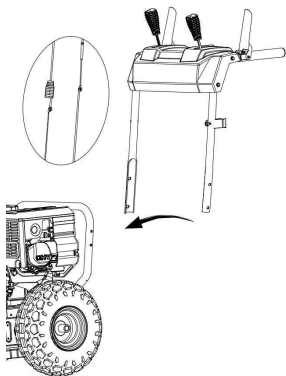

Figure 1
3. When attaching Assembly Hardware, make sure **ALL** cables are underneath the Frame (Upper & Lower) Handles after installation as indicated in Figure 1. **VERY IMPORTANT!!!*****
5. Verify that the connection for the Upper & Lower Drive/Auger Cables is accurate. (See Figure 1)